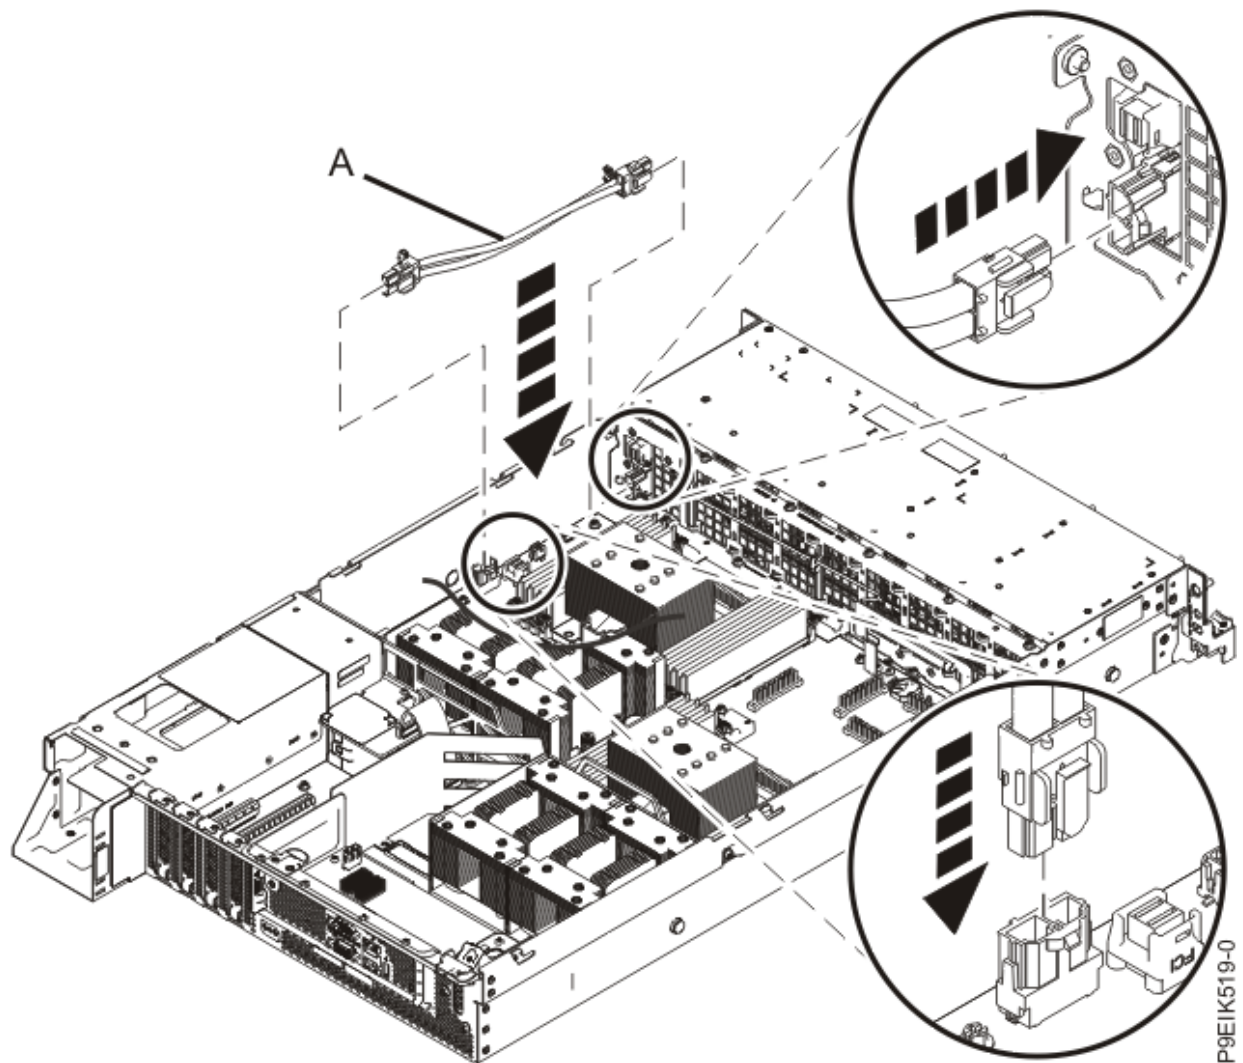

Figure 23. Installing the fan power cable
2. Route the fan power cable (**A**) connector end through the opening and connect it to the power riser as shown in Figure 23 on page 31.
3. Connect the other end of the fan power cable into the disk drive and fan card as shown in Figure 23 on page 31.